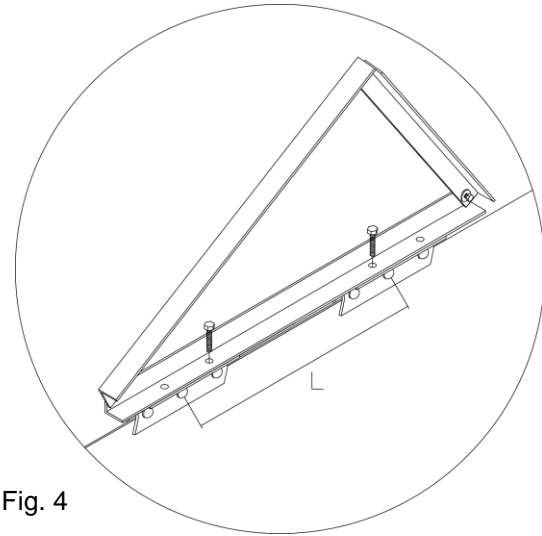

Fig. 4
3. The distance (L) between the upper and the lower sheet fold clamp is for type VERTICAL 1900 mm and for type HORIZONTAL 870 mm (Fig.4).